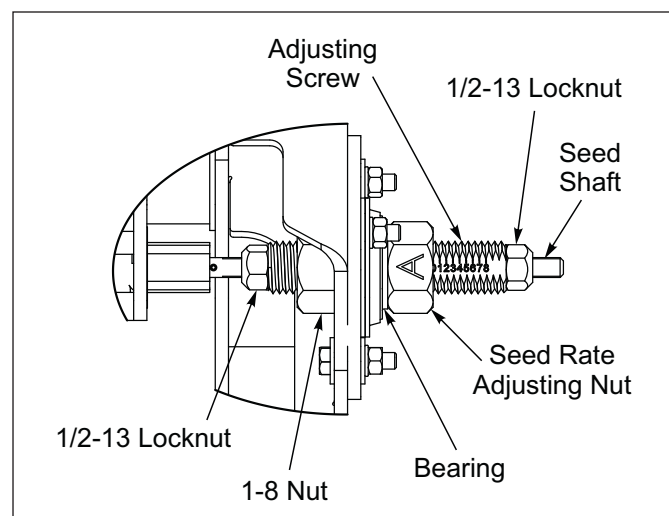

Figure 2-47: Rear Box Seed Rate Adjuster
25. Assemble onto the Rear Seed Box Seed Shaft the Seed Rate Adjusting Screw, 1-8 Nut, Bearing, Seed Rate Adjusting Nut and 1/2-13 Locknut. Place Bearing between Flangettes and attach to Bearing Carrier with 5/16-18 x 1 Bolts, Lock Washers and Nuts. **See Figures 2-47 and 2-48.**